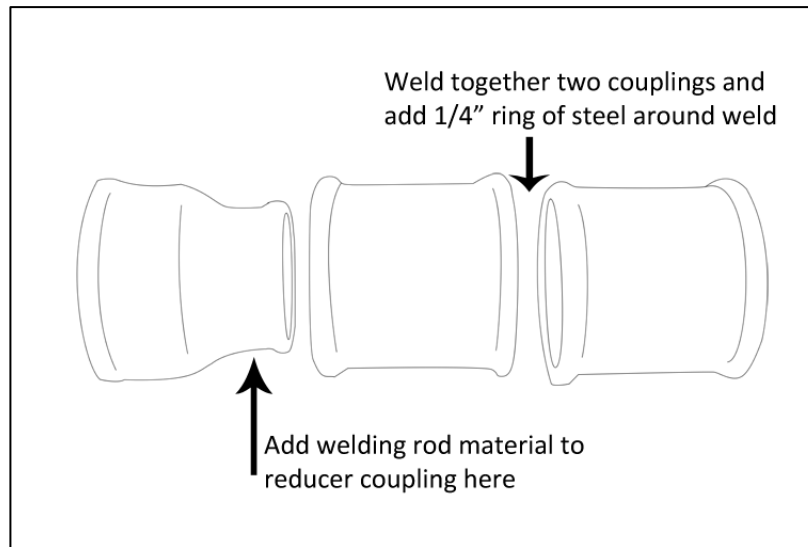
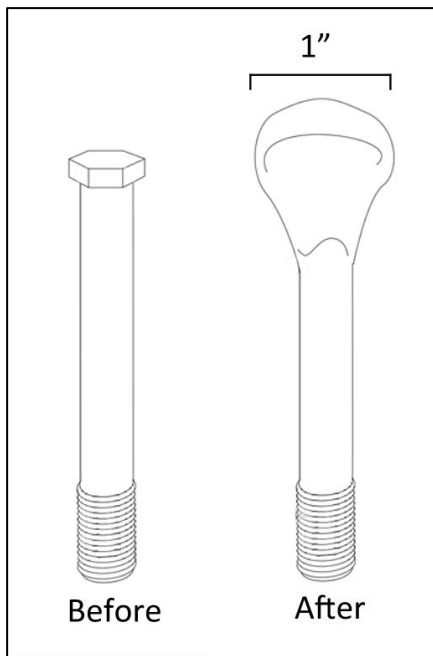

Figure 2 - Welding the valve-housing of the drill bit
Figure 3 - 1" bulb welded on to head of 4" bolt
- i. Weld 1½" galvanized couplings together (Figure 2, next page). Add ¼" ring of welding material around body. This will help widen the borehole.
- ii. Add welding rod material to the outside of the $\frac{3}{4}$ " end of the reducer coupling (Figure 2). Grind the material so that the reducer coupling will fit snugly into the coupling. This ensures that the reducer coupling does not flare out from the constant pounding of the bulb end of the valve, thus breaking the seal between the bulb and the reducer coupling.
- v. An optional addition is to weld (4) $1" \times \frac{3}{8}"$ rebar to the outside of the valve-housing to further aid in increasing the diameter of the borehole, allowing for a 2" PVC casing. (Adding Part iv. and v. is only effective in unconsolidated soil. In harder material, you may want to make a pilot hole with a smaller diameter bit and then ream the borehole using a reaming extension (See page 17).
- vii. To create the valve, weld an approximate 1" diameter bulb/cone on to the head of the $\frac{5}{8}" \times 4"$ bolt as shown in Figure 3 (next page). Shape the bulb with a grinder, ensuring that it fits snugly into the reducer coupling and that there is enough space around the bulb for the cuttings to flow up and through the